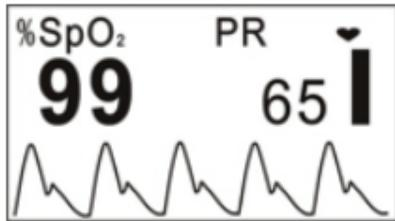
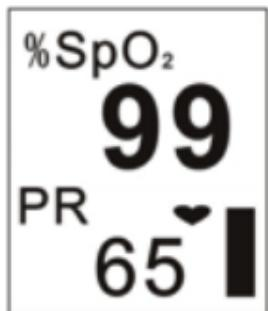
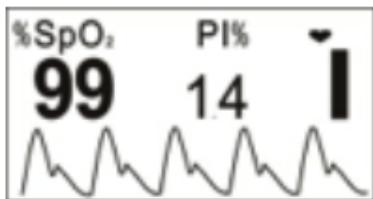
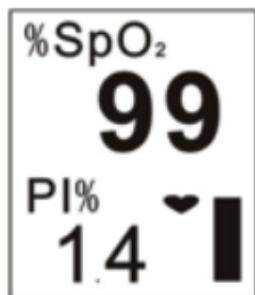

Figure 4
Figure 5
Figure 6
Figure 7
4. Next enter into data display screen (as shown in Figure 4). User can read the values and view the waveform from display screen.
5. When the display is shown as Figure 4, press Display Key to switch display screen:
- Press Display Key once, display screen (as shown in Figure 4) will be flipped 180°.
- Press Display Key twice, display screen will be changed as Figure 5.
- Press Display Key three times, display screen (as shown in Figure 5) will be flipped 180°.
- Press Display Key four times, display screen will back to the screen as shown in Figure 4.
- Press Display Key circularly, display screen will be switched between the two screens (as shown in Figure 4 and Figure 5), and four directions display alternately.
6. Longtime press Display Key (about 2 seconds), display screen will be shown as Figure 6. Differences between Figure 6 and Figure 4 are as follows:
- In Figure 4, SpO₂ and pulse rate are being monitored and displayed on the screen.
- In Figure 6, SpO₂ and perfusion index are being monitored and displayed on the screen.
7. When the screen displays as shown in Figure 6, press Display Key circularly, the display screen will be switched between the two screens (as shown in Figure 6 and Figure 7), and four directions display alternately.
8. Display screen (as shown in Figure 6 or Figure 7) will return to the screen as shown in Figure 4 or Figure 5 if without operation in 10 seconds.